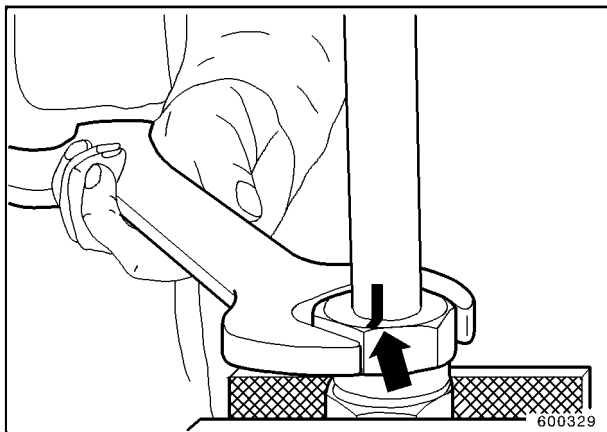

Fig. 9
6. Make chalk marks on union nut and pipe (Fig. 9) so that assembly can be checked more easily.